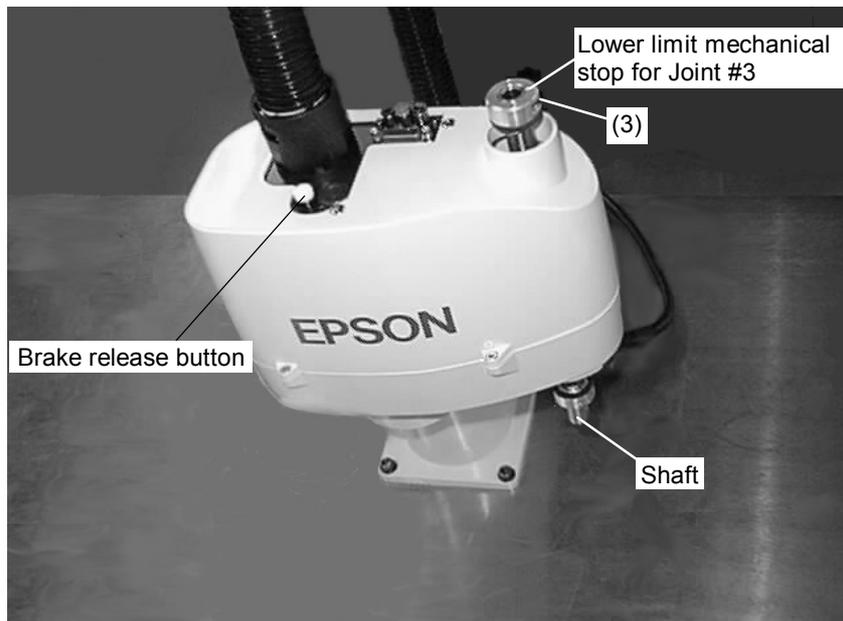

Figure 30. Mechanical stop for Joint #3
- (2) Turn OFF the controller.
- (3) The lower-limit mechanical stop is a split muff coupling fastened to the top of the shaft. Loosen the coupling's M3×10 bolt. (See Figure 30.)